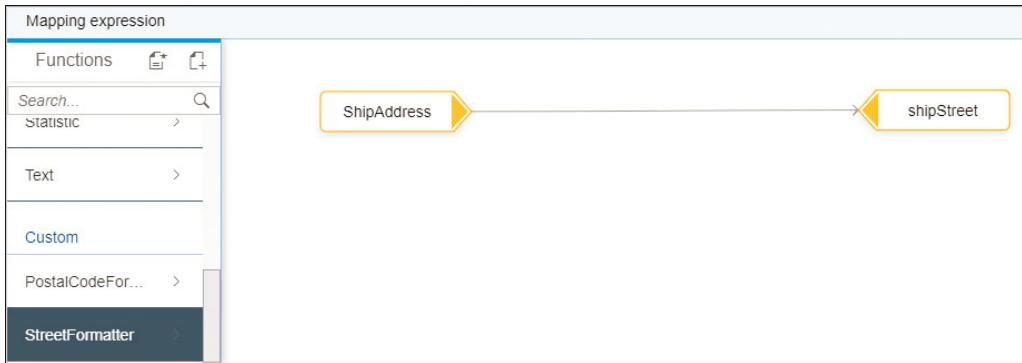

Figure 9.7 The Newly Created UDF Now Available in the Mapping
10. Return to the mapping editor, and find the newly created **StreetFormatter** UDF under the **Custom** section, as shown in Figure 9.7.